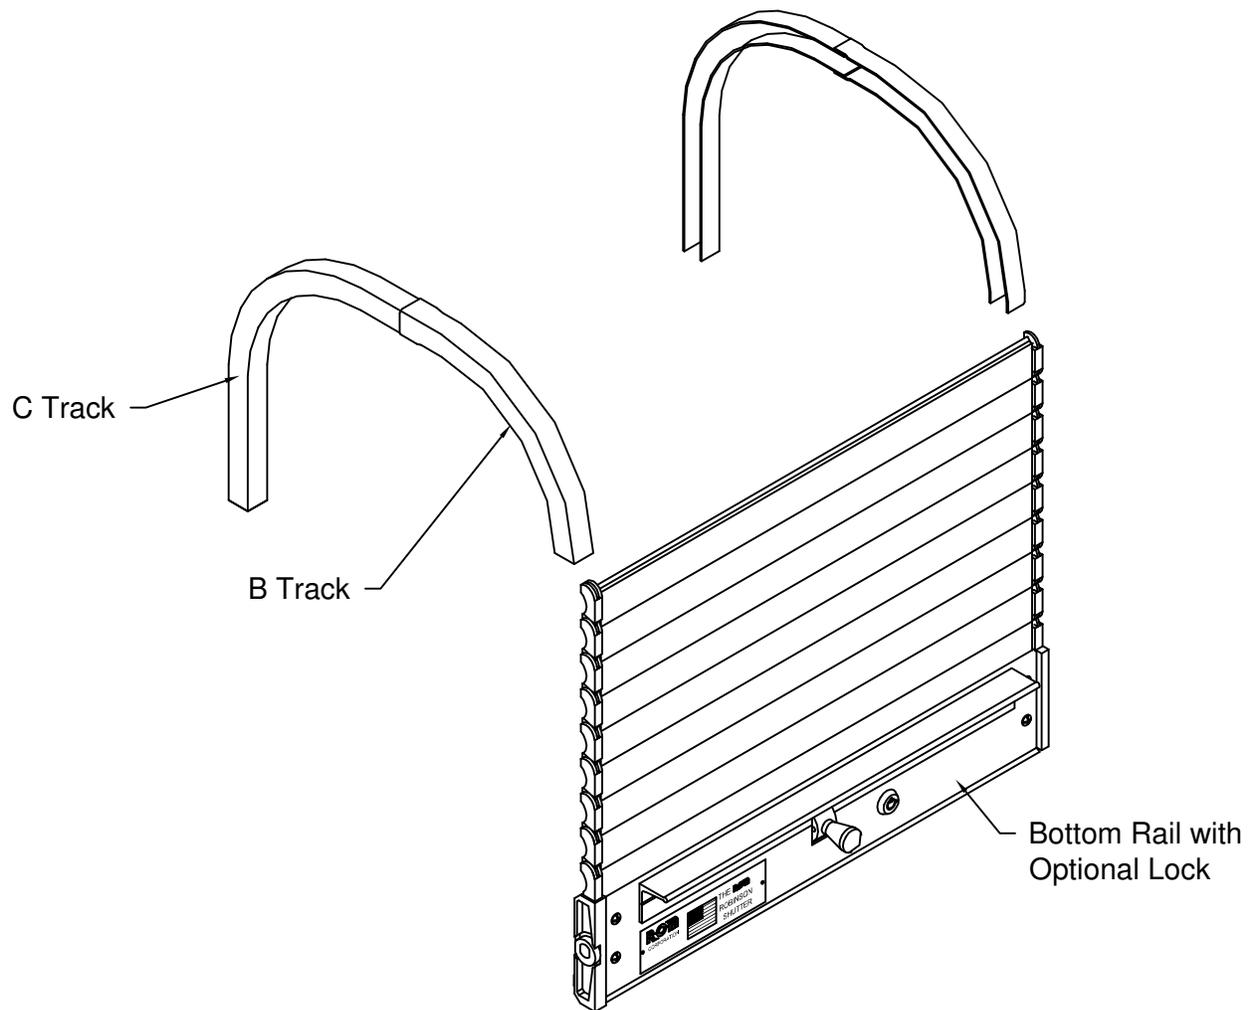

Fig. 2
- a) Insert the rear of the shutter first into track "B" (Fig. 2 shown with optional lock). Slide the shutter so that the bottom rail is completely inserted into track "B". Manipulate the latch so that the shutter can move freely in the track while inserting.